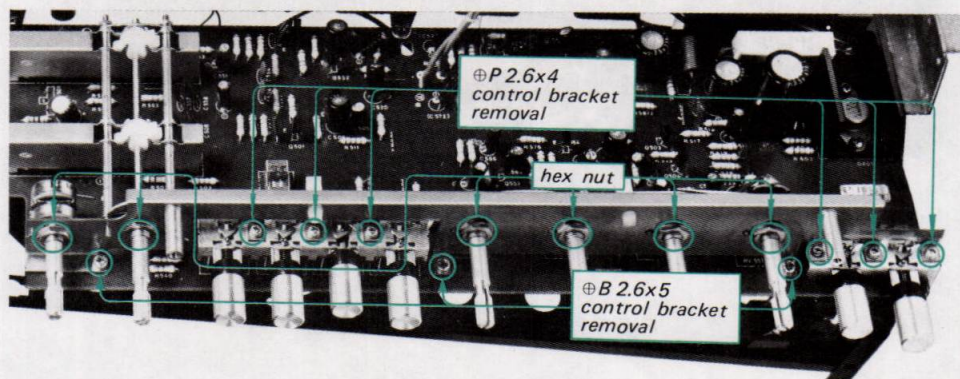

Fig. 2-18. Control bracket removal
4. Remove the six hex nuts and six screws securing all the controls and switches to the control bracket as shown in Fig. 2-18.
5. Remove the three screws securing the control bracket to the control board as shown in Fig. 2-18. This frees control bracket.